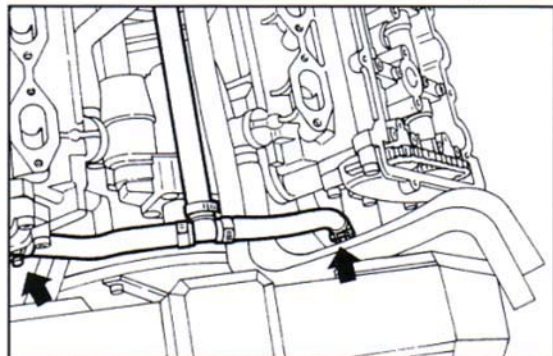

Fig. 48 ▼
- slacken the clamps and disconnect the coolant discharge tubes from the turbocharger (**Fig. 48**);